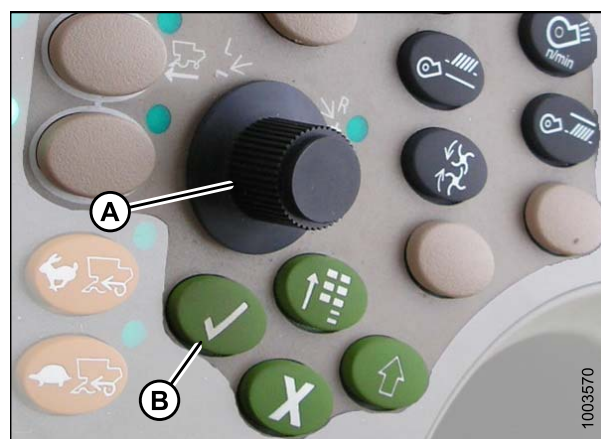

Figure 6.231: John Deere Combine Control Console
6. Select HEADER in box (A) by scrolling down to the box using the scroll knob, and then pressing the check mark button (knob and button are shown in Figure 6.231, page 261).
7. Scroll down to the lower right icon that resembles an arrow in a diamond (B) and press the check mark button to select it.